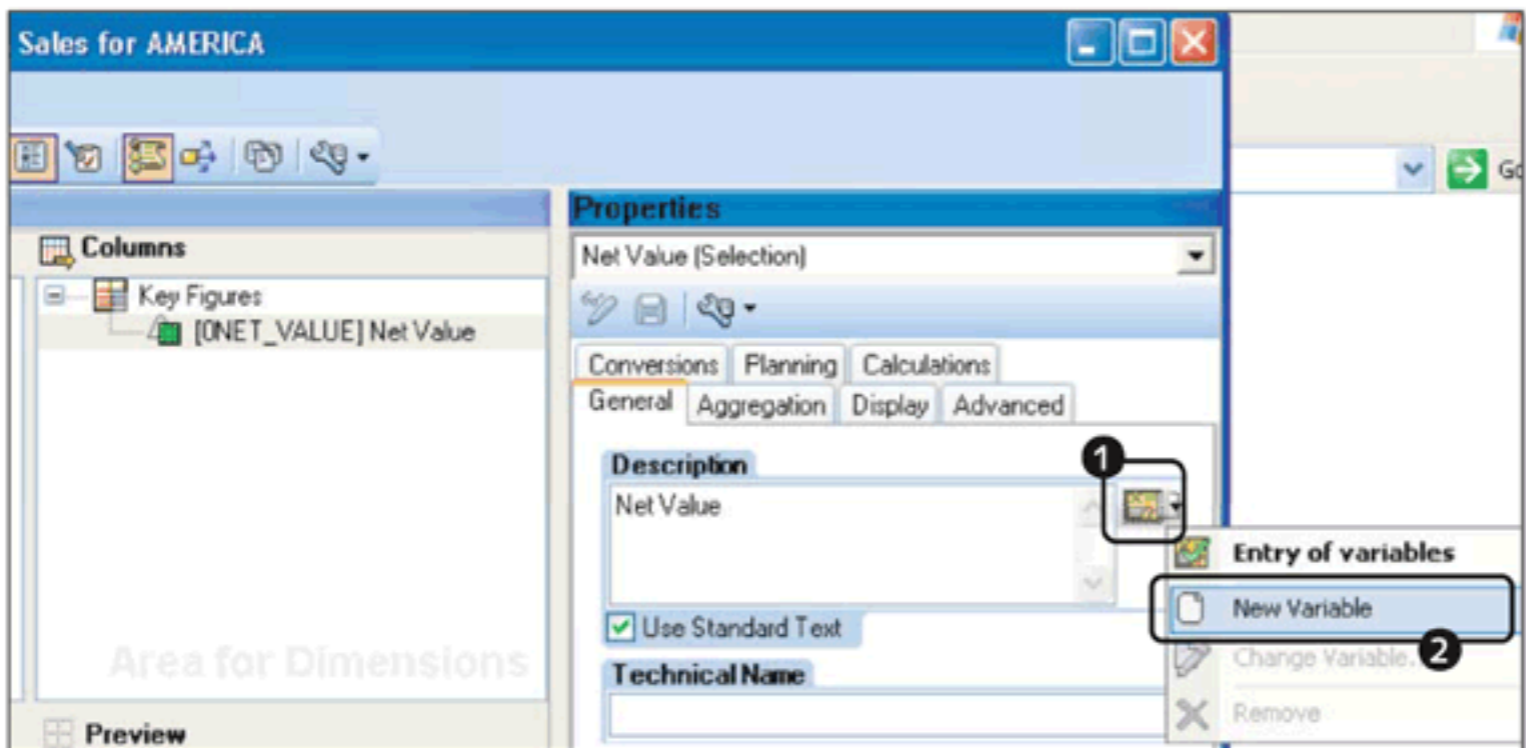

Figure 9.37 Calling the Variable Editor for a Text Variable
Text variables can be used if you want to have flexible descriptions for different query elements. You can use a variable in the description wherever there is a VARIABLE icon (📄) available. To call the Variable Editor, click on this icon (❶ of Figure 9.37), and then click on NEW VARIABLE (❷).